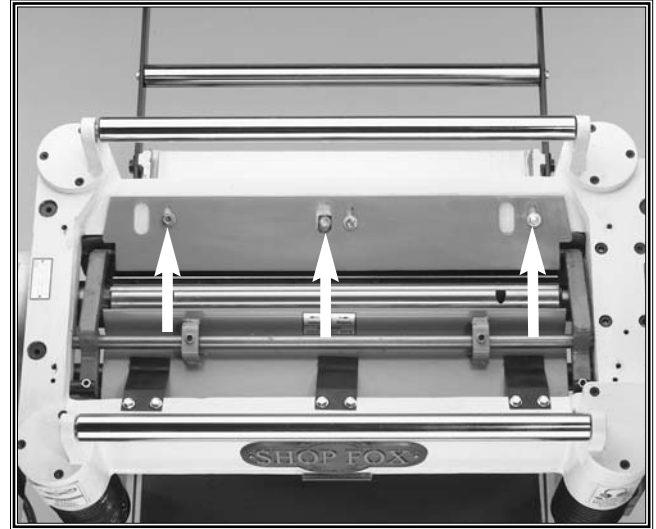

Figure 24. Chip deflector mounting bolts.
1. Loosen the chip deflector mounting bolts shown in **Figure 24**.